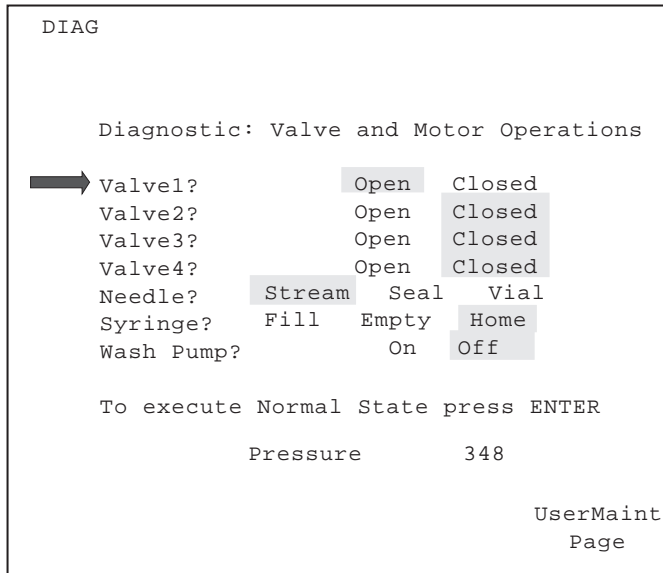

Figure 6-2 Valve and Motor Operations
3. Access the Valve/Motor Diagnostics page (Figure 6-2).